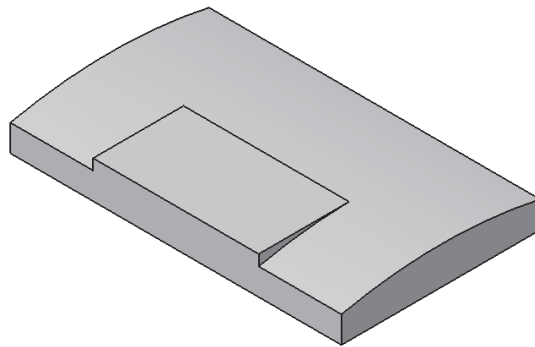

Figure 6-92 The model after creating the second feature
5. Select the **Up to next** option from the **Type** drop-down list and exit the **Pad Definition** dialog box. The model, after creating the second feature, is shown in Figure 6-92.